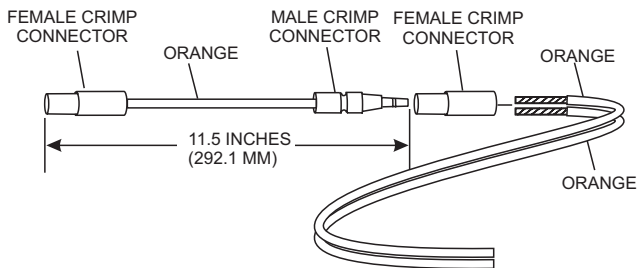

Figure 5. Orange Wire Crimp Connection
- Insert, then crimp both orange wires (Figure 5) into the female crimp connector.